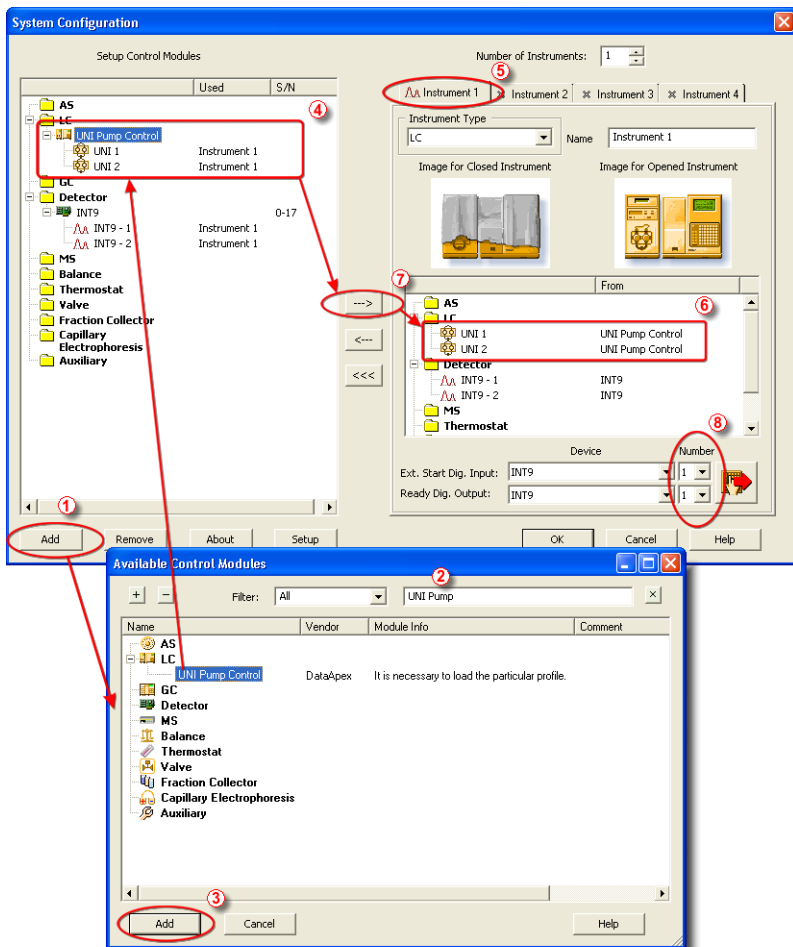

Fig 2: How to add Knauer pumps
- Press the **Add** button ① (see Fig 2 on pg 5.) to invoke the **Available Control Modules** dialog.
- You can specify the searching filter ② to simplify the finding of the driver.
- Select the **UNI Pump Control** item and press the **Add** ③ button.